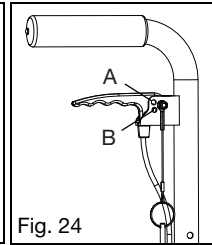

Fig. 24
- For the style shown in Fig. 24, lock the trigger in the unlocked position by inserting the pin into the hand trigger hole (Fig. 24:B).